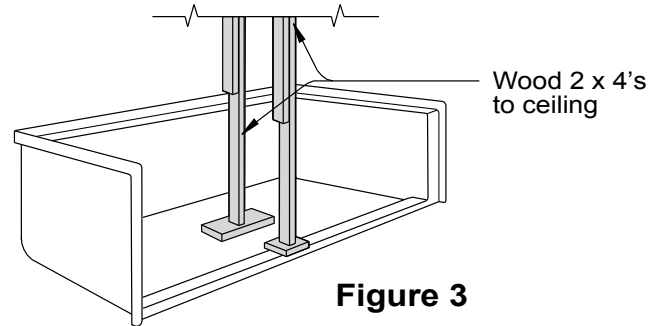

Figure 3
21. Use 6 wooden 2 x 2 blocks spaced evenly along the top connection surface of the shower base. These blocks will hold the wall sections above the mounting surface until you are ready for final installation. Use masking tape to temporarily secure the blocks. See *Figure 3*.